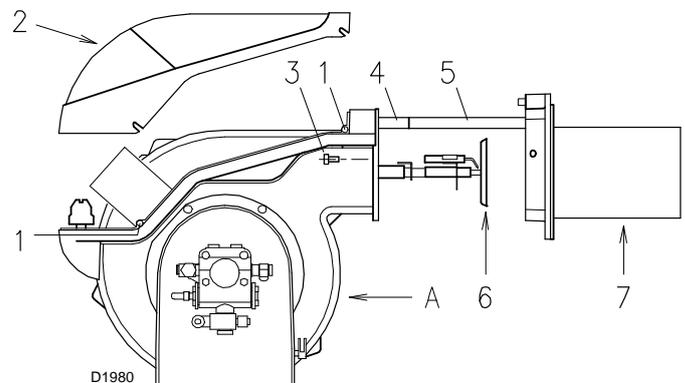

Fig. 35
- Loosen screws 1)(Fig. 35) and withdraw the cover 2).